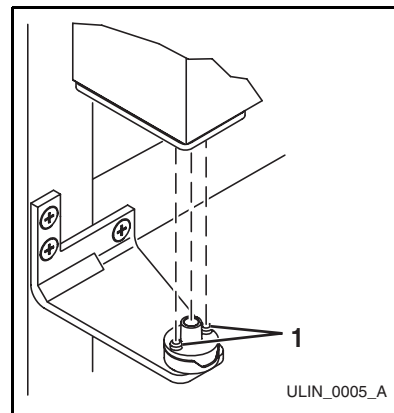
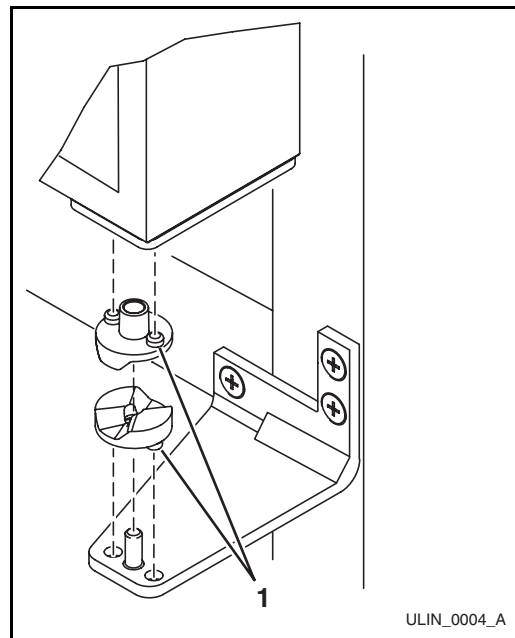

Figure 25
Figure 26
4. Install the removed top hinge mount on opposite side **BOTTOM** (**Figure 25**).
5. Remove the two door closer inserts (**Figure 26, 1**) from the existing bottom hinge and install as shown on the new bottom hinge (**Figure 25, 1**).
9. Holding door upright with top of door tilted forward, place hole of door pivot plate on bottom hinge screw pin/closer inserts (**Figure 25, 1**).